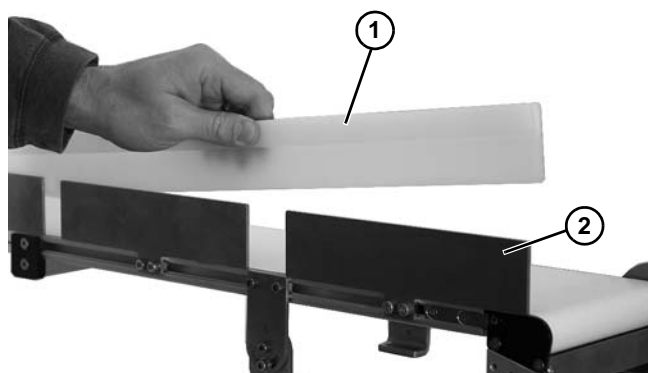

Figure 15
*Space support brackets evenly along conveyor as shown in (**Figure 15**).*
3. Install guide (**Figure 15, item 1**) onto guiding support bracket (**Figure 15, item 2**).